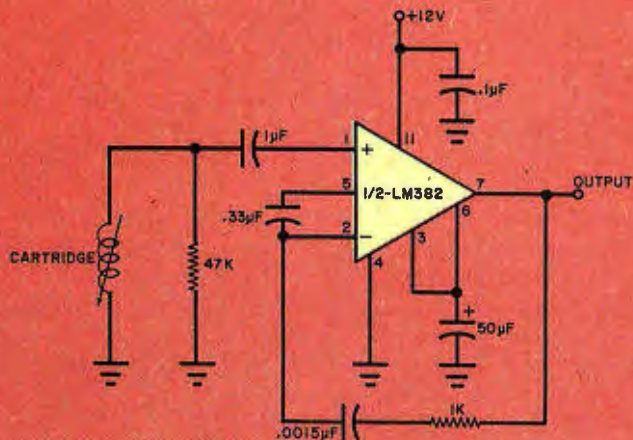

Fig. 6. This phono preamp uses the LM382 IC and has a minimum parts count.
We can make a very simple low-noise phono preamp by using the LM382 IC, which has an internal resistor matrix. The circuit is shown in Fig. 6, and has been optimized for use with a 12-to-14-volt dc supply. Its midband 0-dB reference gain is 46 dB (200) and can not easily be altered. For designs requiring gain or supply voltage changes, an LM381 or LM387 is a better choice.